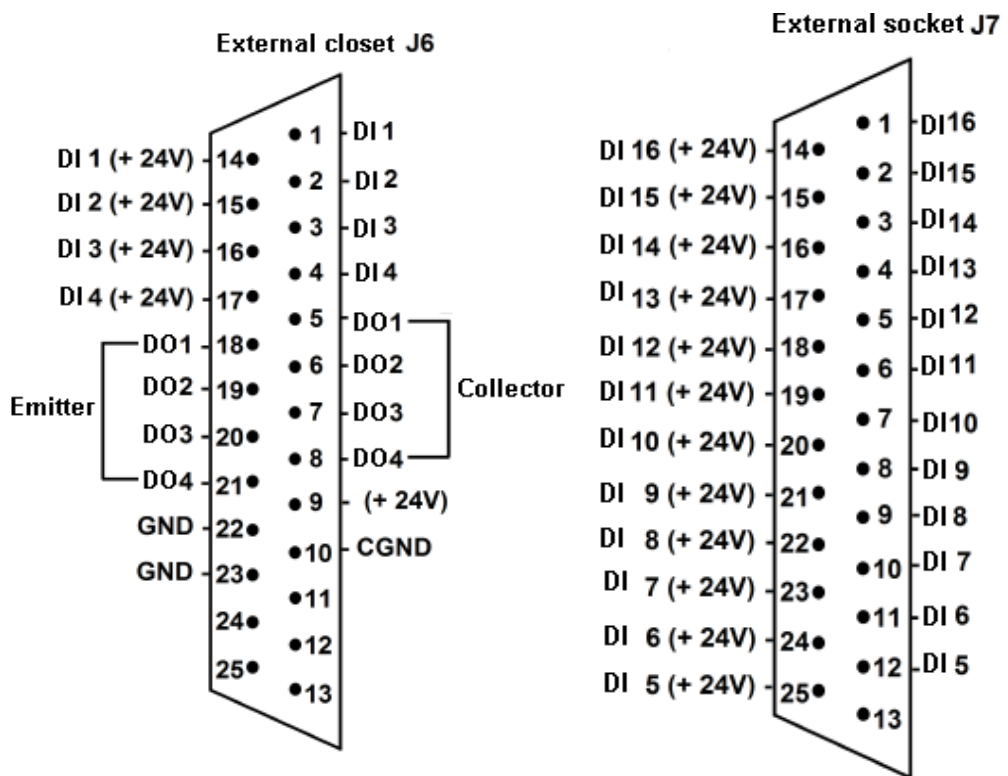
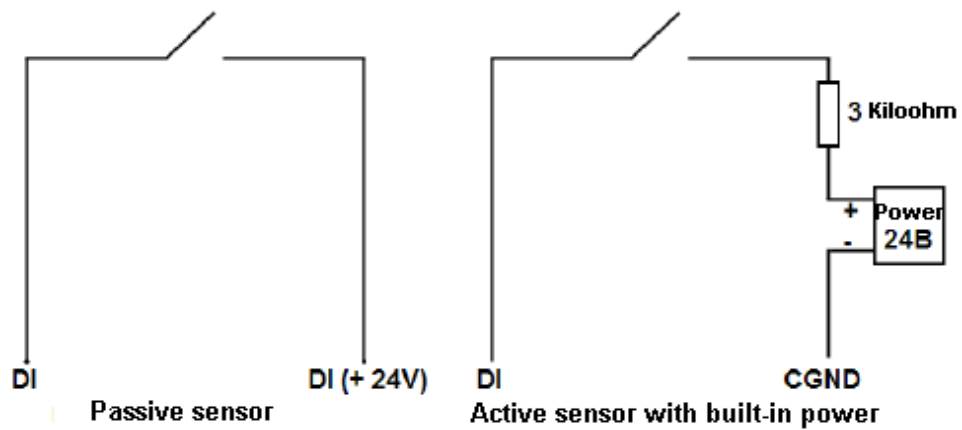
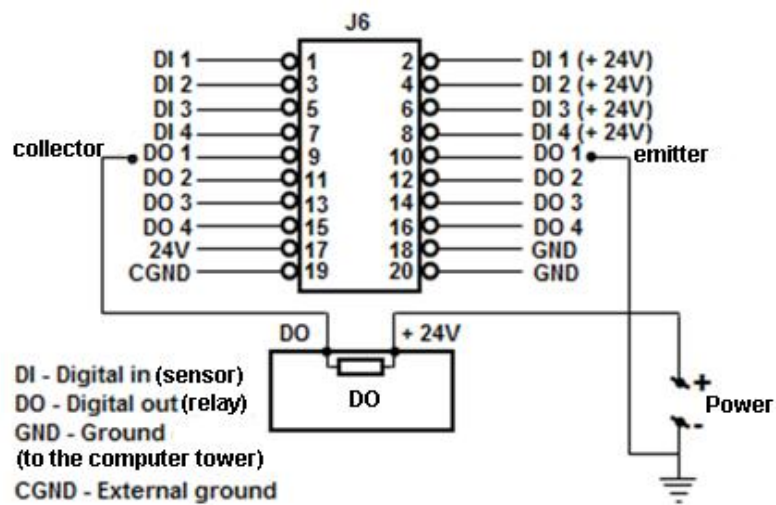
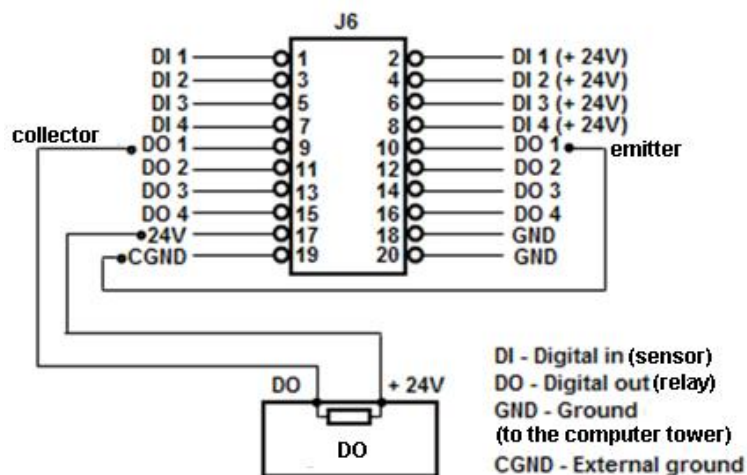

Figure 2.4-9 External connector pinout of the DI/DO interface cable
Figure 2.4-10 DI types and features of their connection
Figure 2.4-11 Example of power DO connection (with external power supply)
Figure 2.4-12 Example of low-power DO (power supply on the card)
- To connect DI/DO, unsolder the connector included in the distribution kit of the DI/DO card. Unsoldering is made in accordance with the external connector pinout of the DI/DO interface cable, taking into account power circuit of connected devices (Figure 2.4-9, Figure 2.4-10, Figure 2.4-11, Figure 2.4-12).